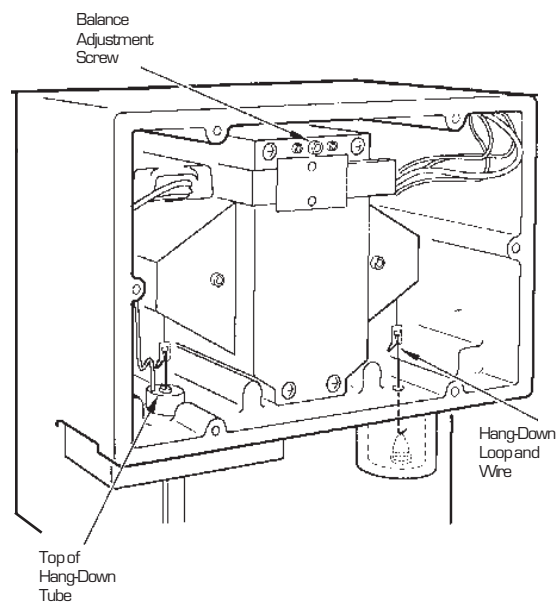

Figure 2.16
4. If the wire is not roughly centered inside the hang-down tube, turn the balance adjustment screw (Figure 2.16) with the 7/64-inch ball driver until the wire is centered.